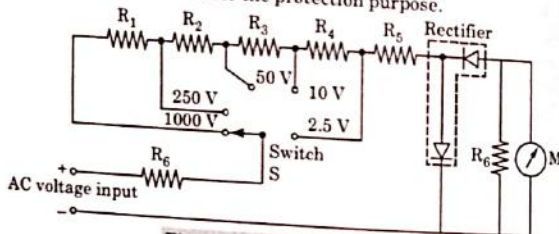

Fig. 4.7.3. Rectifier type ammeter.
1. The Fig. 4.7.3 shows voltmeter section of a multimeter.